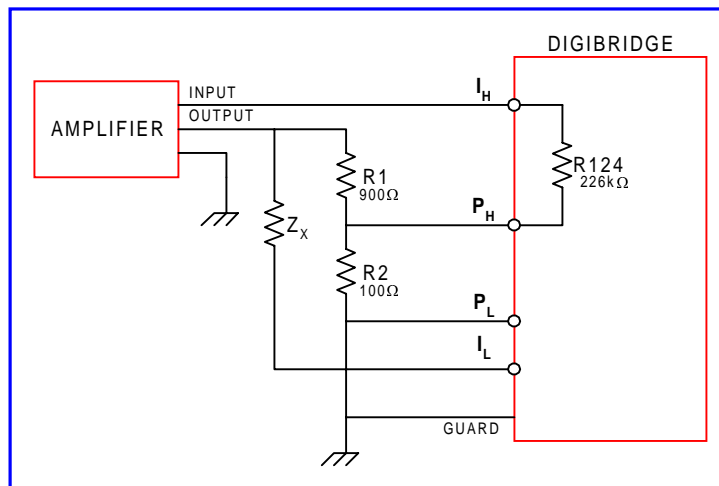

Figure 1: External Amplifier
The internal test voltage supplied by a Digibridge is 1.275 V RMS or less, the exact level available is model dependent. This application note describes several methods to increase the test voltage applied to a device under test. In cases where the digibridge is not capable of supplying the desired test voltage, an external amplifier or synchronized oscillator is used to boost the test voltage to the desired level for the device under test. This is then followed by a voltage divider network to reduce the voltage to a level within the operating range of the bridge. The maximum voltage that may be applied is determined by the total amount of current flowing into the I- lead of the bridge and the range in which the bridge is set on (refer to procedure section 3). Figure 1 represents the technique employed where moderate accuracy is required.
1. Build the setup shown in Figure 1.